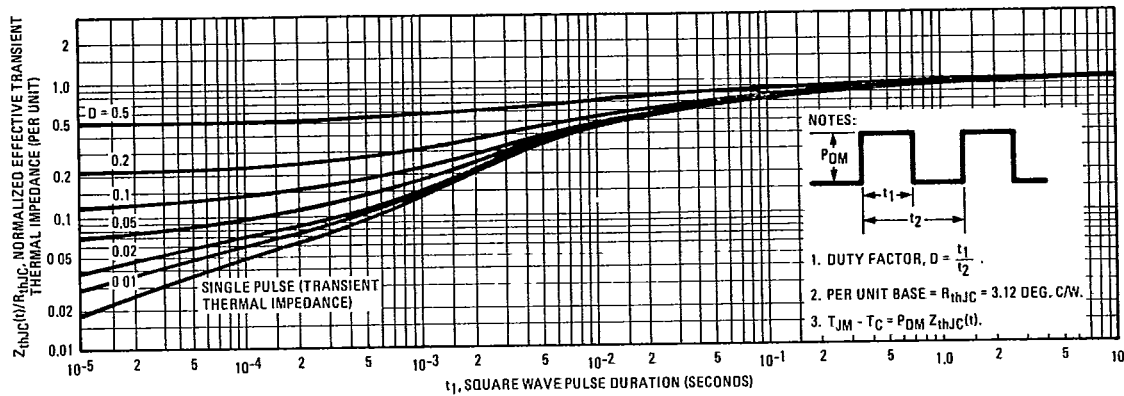

Fig. 5 — Maximum Effective Transient Thermal Impedance, Junction-to-Case Vs. Pulse Duration
- ① $T_J = 25^\circ\text{C}$ to 150°C . ② Pulse Test: Pulse width $\leq 300\mu\text{s}$, Duty Cycle $\leq 2\%$. ③ Repetitive Rating: Pulse width limited by max. junction temperature. See Transient Thermal Impedance Curve (Fig. 5).
- ④ $\text{K/W} = ^\circ\text{C/W}$